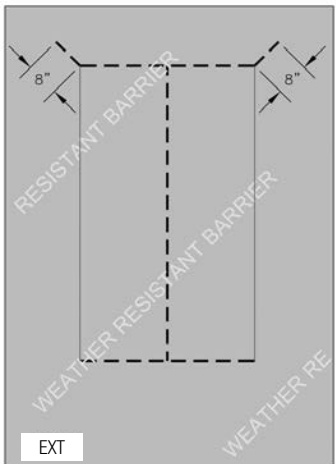

FIG. 3
- G) Make an "I-Cut" in the weather-resistant barrier (WRB). Begin with a horizontal cut along the bottom and the top of the rough opening. Then make a vertical cut in the center from top to bottom. (Fig. 3)
- H) From the exterior make two diagonal cuts at the top of the "I-cut" as shown to form a flap. (Fig. 3)